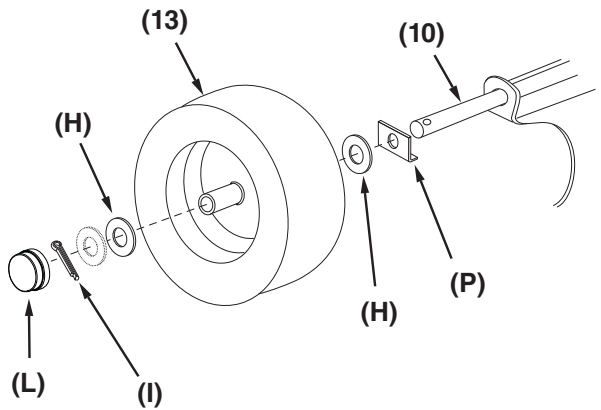

Figure 11
**STEP 11 (SEE FIGURE 11):** Install onto the axle (10) an axle clip (P), a 1/4" washer (H), a wheel (13), two 1/4" washers (H), a cotter pin (I) and a hub cap (L). Be sure to spread the ends of the cotter pin to secure the wheel. Repeat for the other side.